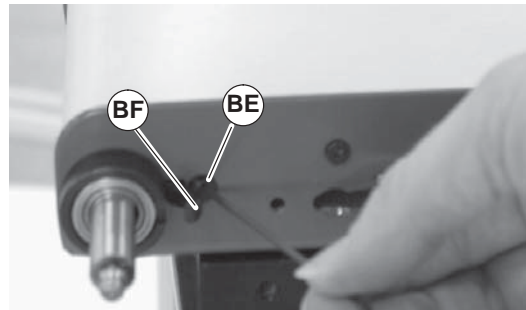

Figure 24
2. Loosen but do not remove screw (Figure 24, item BE). Push until pulley retaining sleeve clip (BF) pushes out.